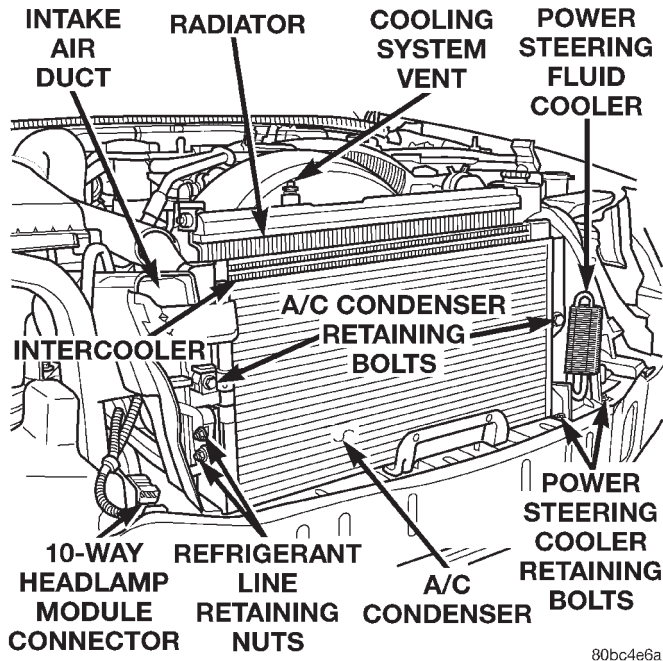

Fig. 18 Cooling Module Assembly
- (15) Remove the hood latch retaining fasteners and position it out of the way.
- (16) Remove the hood latch support brackets from the vehicle.
- (17) Remove the upper fan shroud retaining bolts.
- (18) Remove the radiator closure pane from the vehicle. Refer to Group 23, Body for the procedure.
- (19) Remove the viscous cooling fan and carefully set inside of the fan shroud.
- (20) Remove the radiator overflow hose from the radiator and position out of the way.
- (21) Remove the upper radiator hose from the radiator.
- (22) Disconnect the electric radiator cooling fan electrical connector. Located under the intercooler outlet hose.
- (23) If equipped, recover the refrigerant. Refer to Group 24, Heating and Air Conditioning for the procedure.
- (24) Remove the intake air duct from the vehicle (Fig. 18).
- (25) Remove the power steering cooler retaining bolts (Fig. 18) and position the cooler aside.
- (26) Remove the suction and discharge lines from the A/C condenser assembly (Fig. 18).